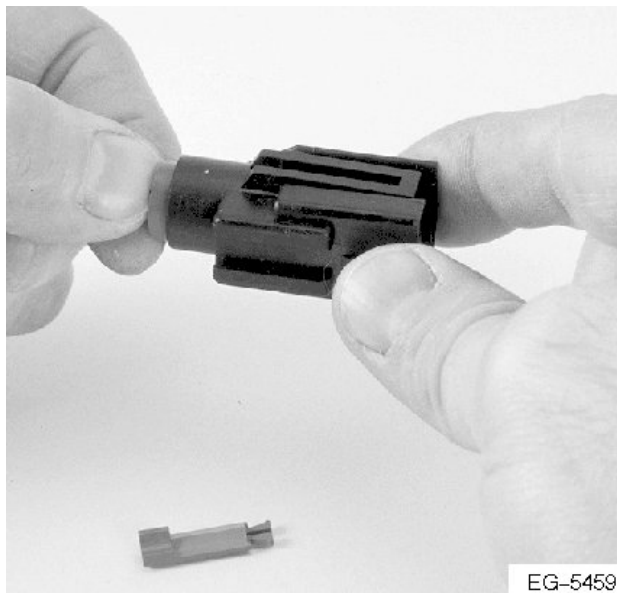

Figure 276 Insert Insulation
2. Push the insulator over the wires into the connector body (if equipped) (See Figure 276, page 443).